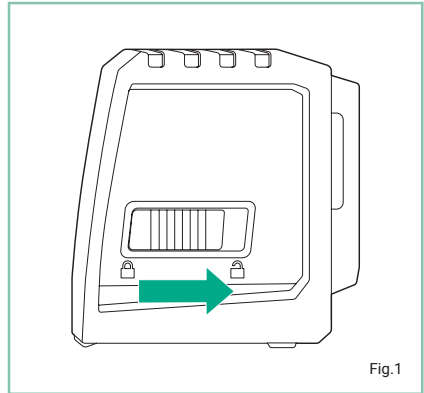
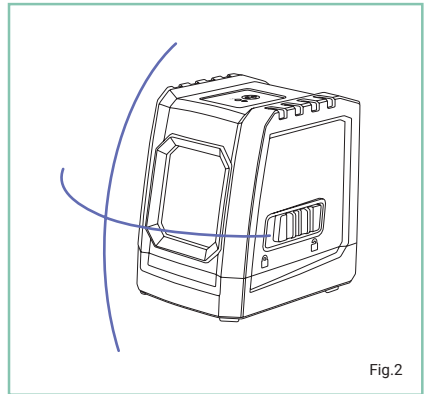

Fig.1
Fig.2
- To turn the laser level on, slide the **power / locking switch** to the "unlocked" position (Fig. 1). Self levelling will commence and the horizontal and vertical beams will activate (Fig.2).